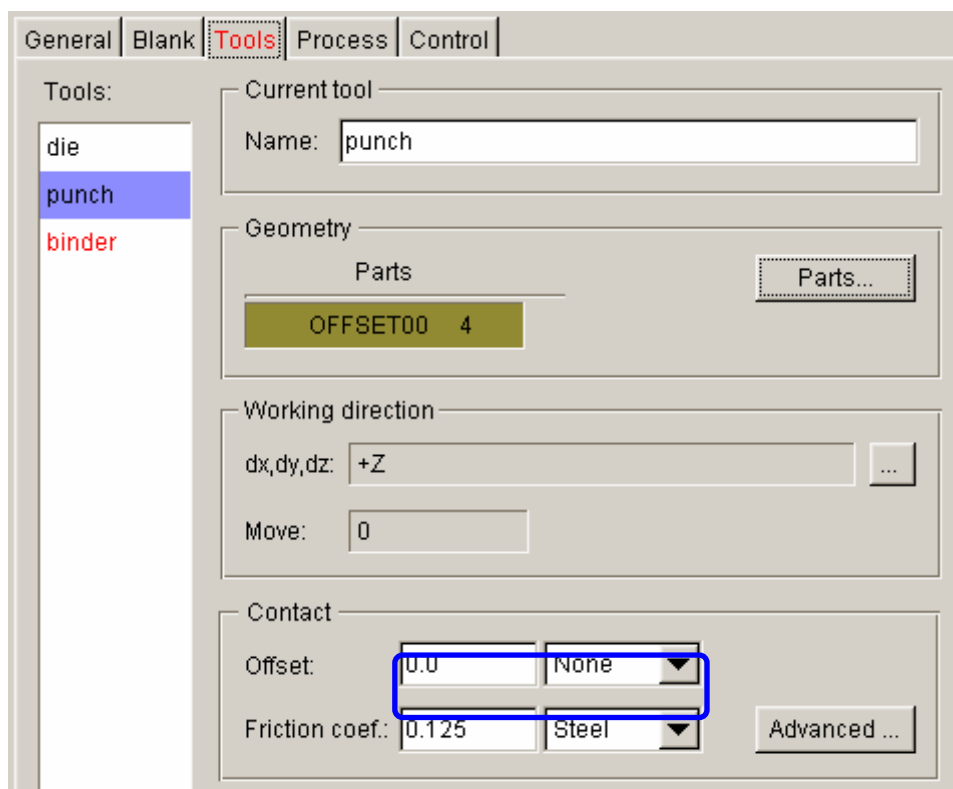

Figure 5.53 Punch definition
20. Click **Exit** button to return to tool definition interface. The font color of **punch** is also changed to BLACK, as illustrated in Figure 5.53. Since the DUAL option was selected in NEW SIMULATION dialog box, the **None** option is automatically selected in the Contact Offset field
illustrated in Figure 5.53. It means numerical contact offset is not applied to punch.